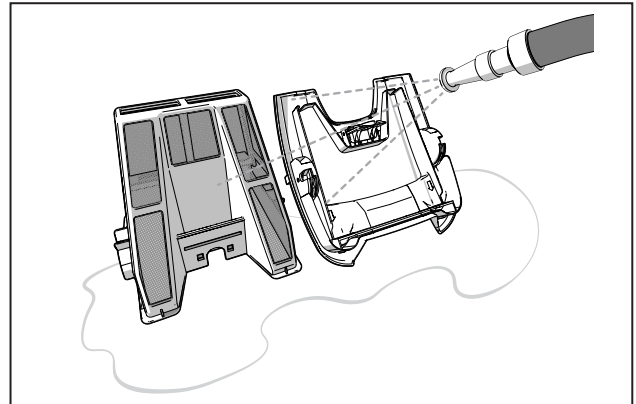

Figure 10. Rinse the Filter Canister
5. Using a hose with clean water, rinse the filter canister and lid to remove all debris (Figure 10).